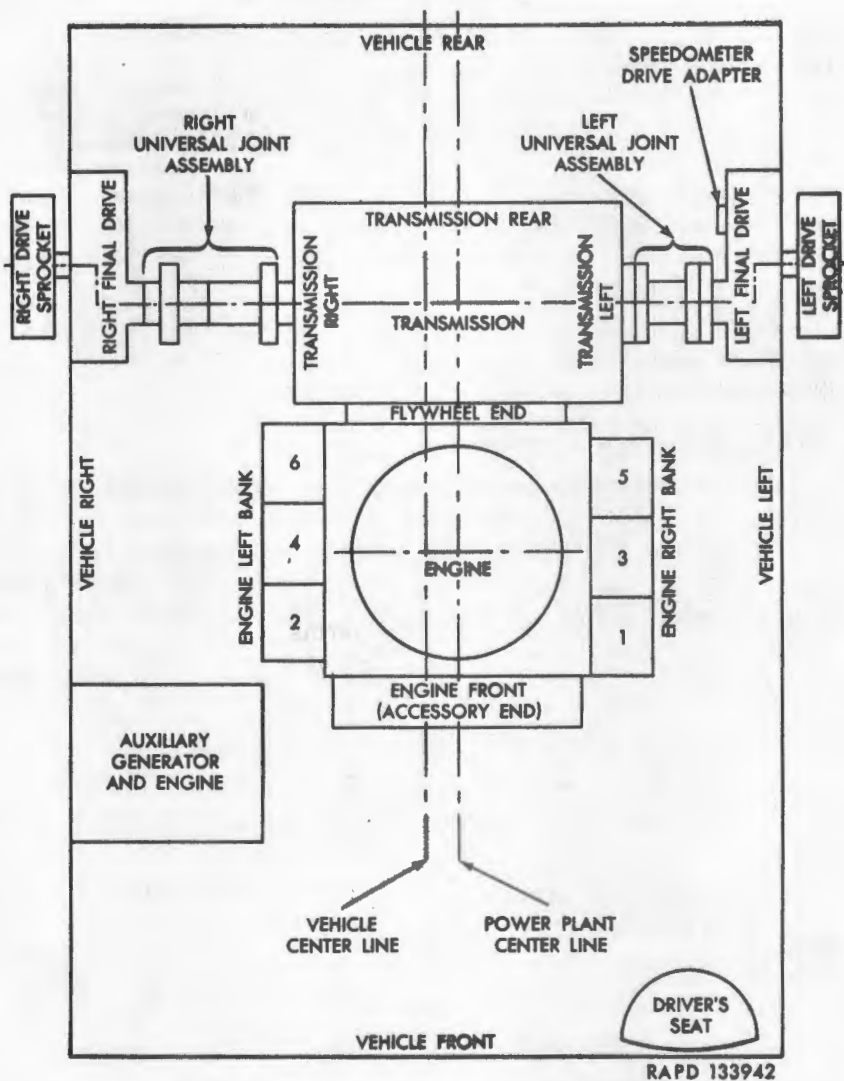

Figure 101. Power plant position in vehicle.
b. Engine Nomenclature. The front of the engine is referred to as the accessory end (fig. 101). The rear of the engine is referred to as the flywheel end. The terms "left" and "right," as used in reference to the engine, are as viewed from the accessory end of the engine (fig. 101). Cylinders are numbered from the accessory end, 1-3-5 on the right side of the engine and 2-4-6 on the left side of the engine. The crankshaft rotates clockwise and the camshafts counterclockwise when viewed from the front or accessory end of the engine. The cooling fan rotates clockwise when viewed from above the engine.